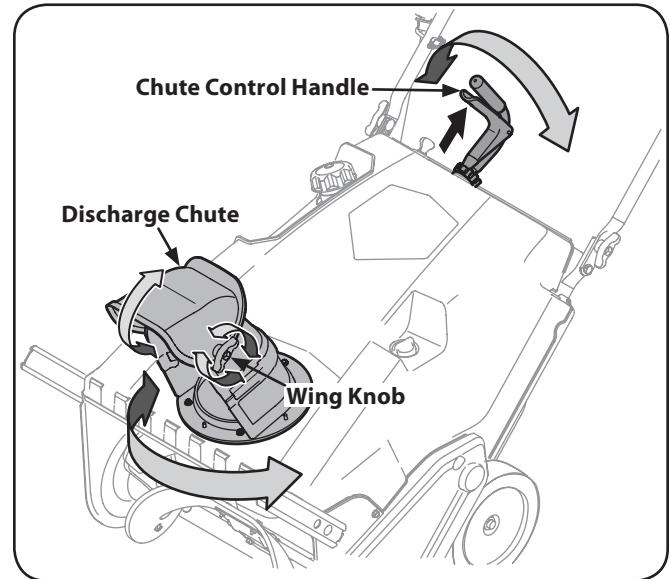

Figure 5-2
1. Rotate the discharge chute to the left or right using the chute rotation control. See Figure 5-2.
2. To adjust the pitch, loosen the wing knob on the side of the discharge chute and pivot the discharge chute upward or downward. Retighten the knob once the desired position has been achieved. See Figure 5-2.